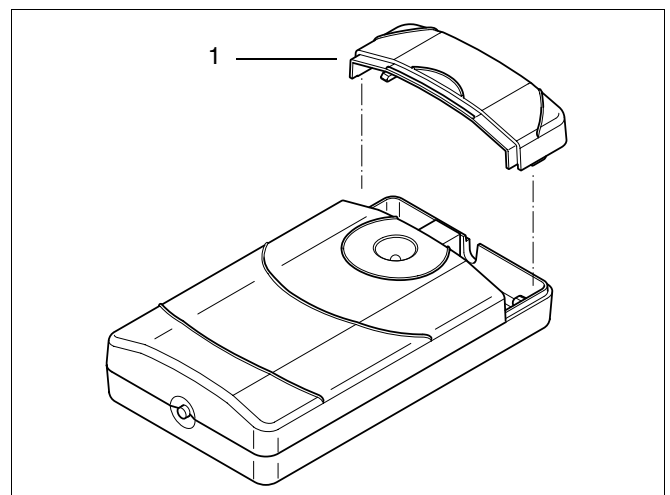

fig. 26 Receiver bracket
- Remove the casing of the receiver (fig. 26, item 1).